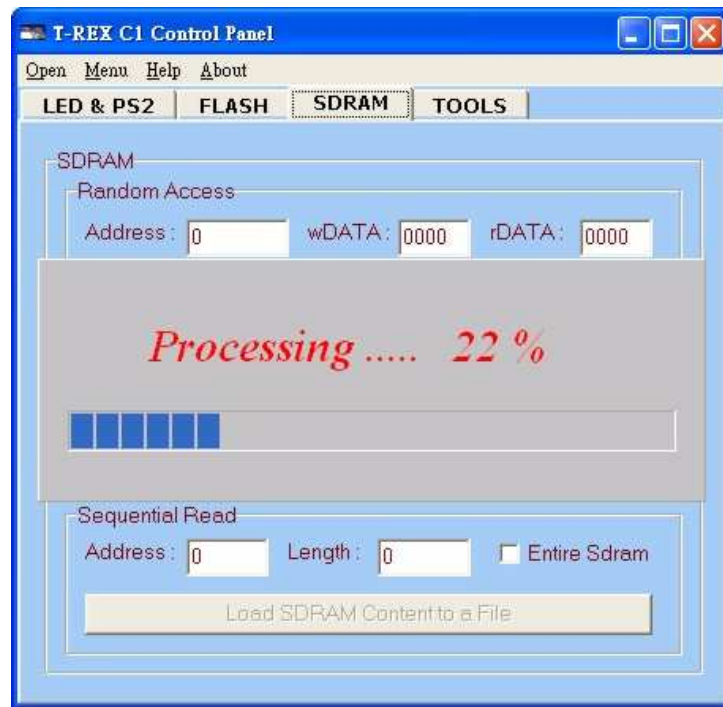

Figure 7.1 Downloading 8Mbyte Music Data into SDRAM
5. Change the SDRAM control page and download the **5thElement_8mbyte** file into the SDRAM. The Control Panel will promote users the downloading status in a progress bar shown in Figure 7.1